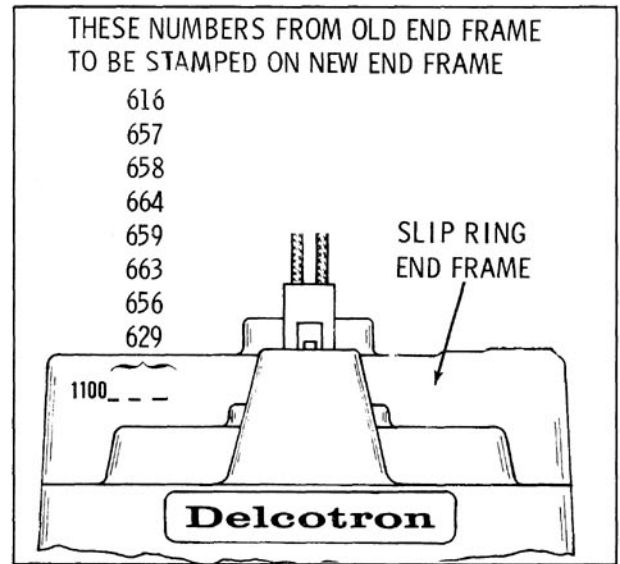

Fig. 13-41 Delcotron Part No. Location
6. Position the stator into the slip ring end frame with the stator and diode lead attaching studs. Before installing the attaching nuts, position the relay lead over the diode lead attaching stud. Tighten all nuts. (Fig. 13-41)